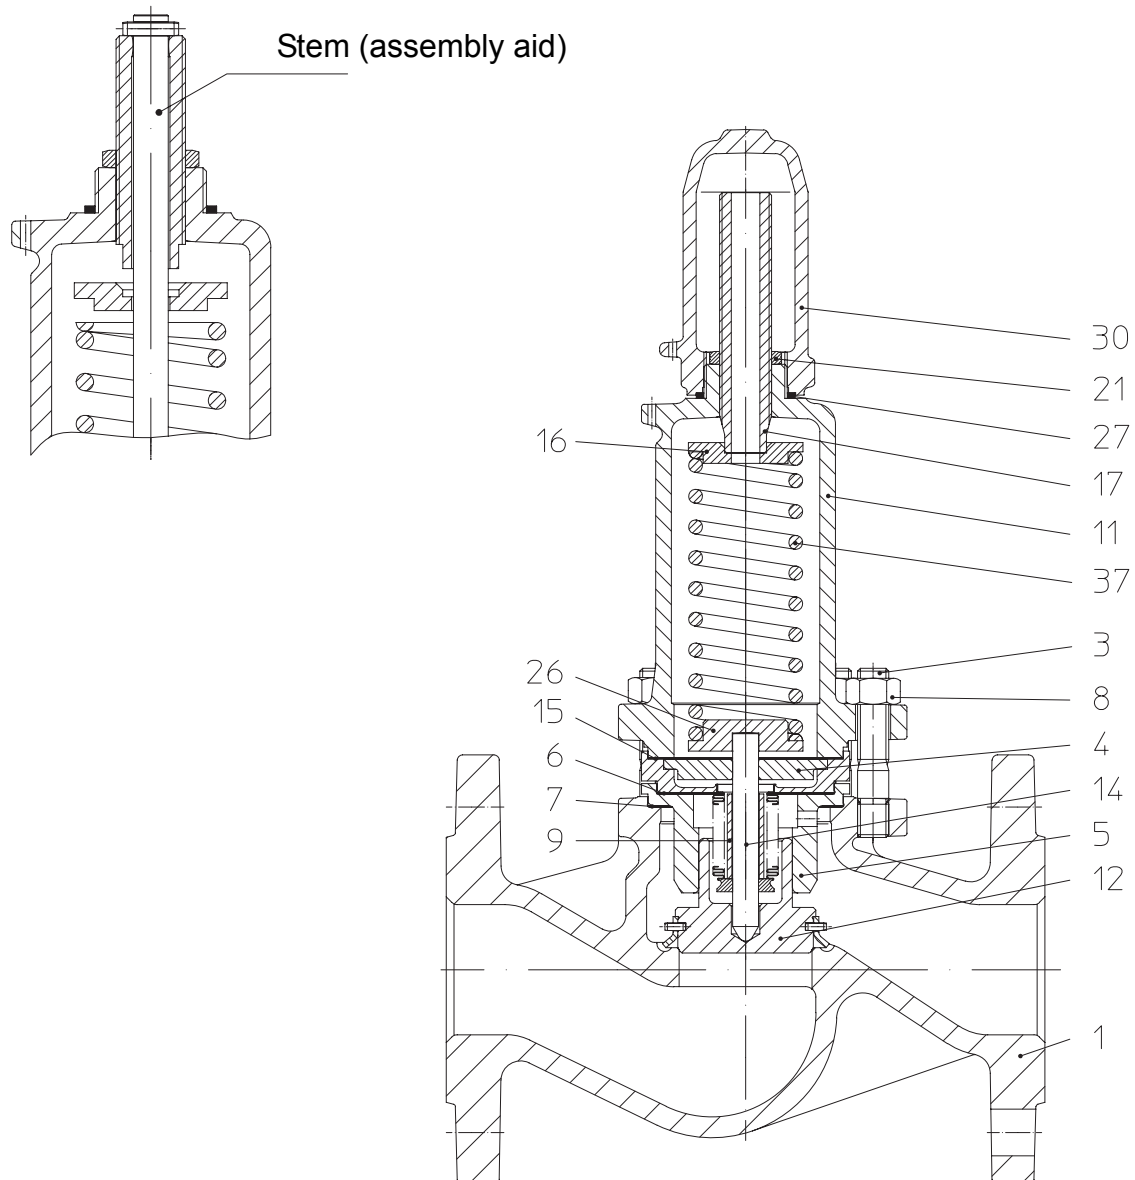

Fig. 3
- Remove upper spring plate (pos. 16) and spring (pos. 37).
- Replace new spring (pos. 37) and upper spring plate (pos. 16).
- Mount bonnet (pos. 11) with the help of a rod (refer to Fig. 3), the upper spring plate (pos. 16) and spring (pos. 37) is centered to the adjusting screw (pos. 17). Then reset the pressure range with flowing media, refer to spring range (refer to point 6.0 Putting the valve into operation).
- Secure spring setting by tightening lock nut (pos. 21).